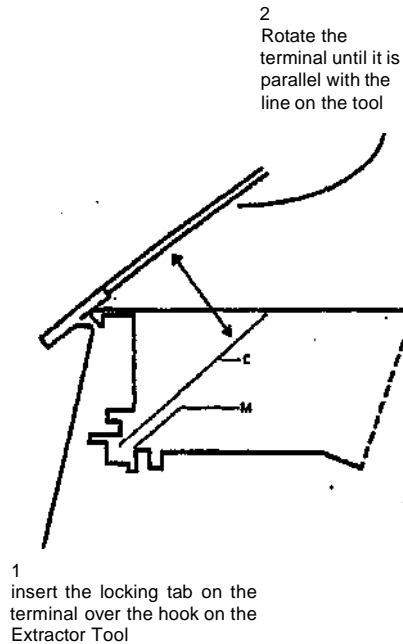

Figure 4. Reforming the Locking Tab
4. (Figure 4): Reform the Terminal Locking Tab.